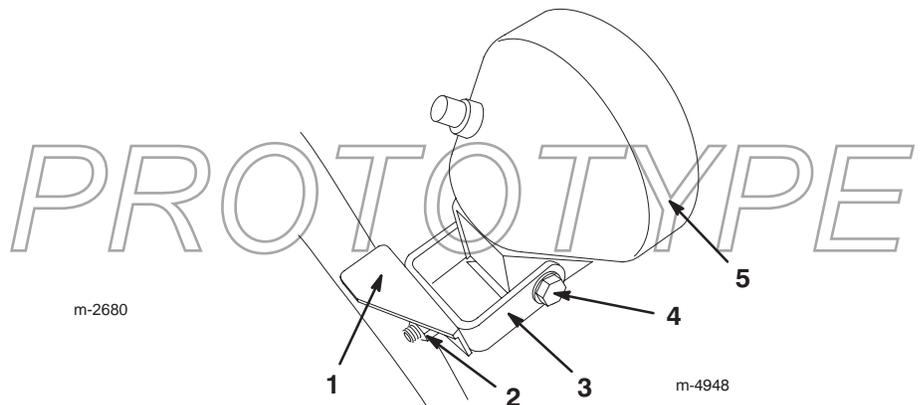

Figure 26
- Loosen the 2 nuts on the U-bolt that hold the headlight bracket to the handle (Fig. 26).